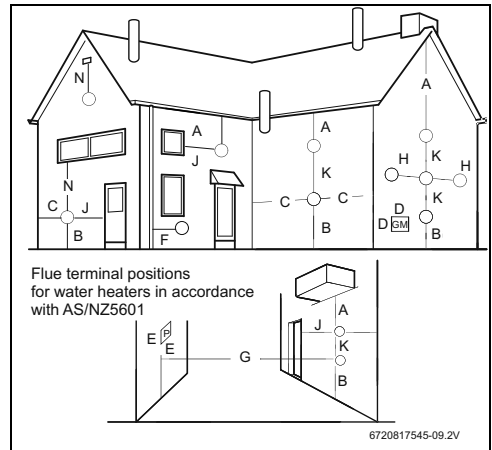

Fig. 5 Minimum flue clearances (use as a guide only, always AS/NZS5601).
- ▶ Comply with the minimum installation clearances indicated in Fig. 5 and Table 6.
- Install the appliance in accordance with the minimum installation clearances indicated in Fig. 5 and Table 6, according to AS/NZS5601